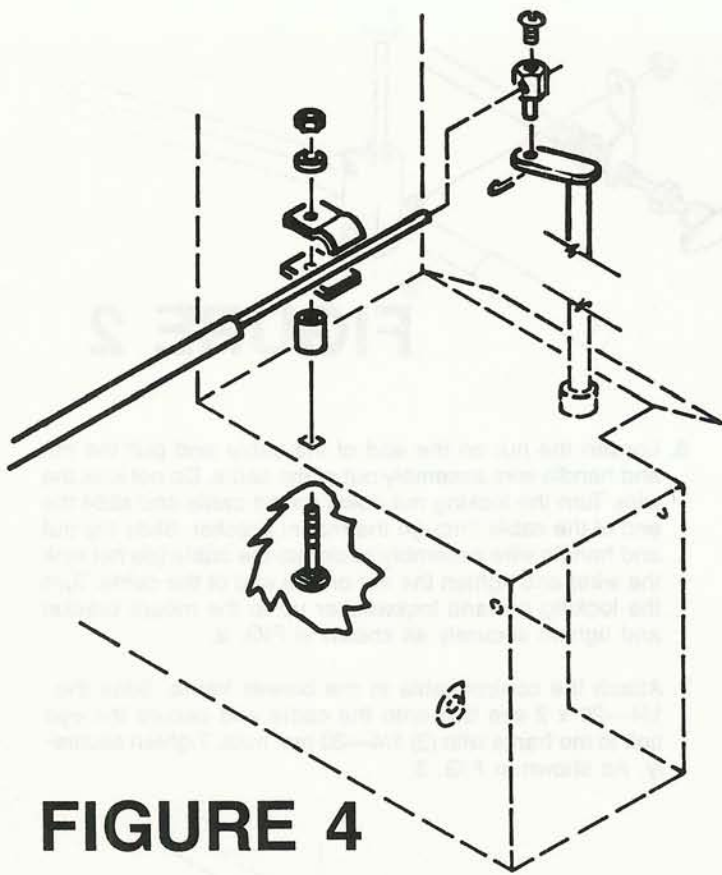

FIGURE 4
8. Attach the cable to the top of the blower discharge using the 1/4—20 x 1 1/2 carriage bolt, spacer, base plate, cable clamp, lockwasher and nut. Leave finger tight. As shown in FIG. 4.
9. Attach the cable pivot to the shaft weldment using a 1/16 x 1/2 cotter pin. As shown in FIG. 4.
11. Position the deflector completely against the front of the discharge opening for side discharge and secure the wire to the cable pivot and tighten the screw. As shown in FIG. 4. Cut off excess wire as required.
12. Position the deflector midway between the side discharge position and the front discharge position. Align the cable with the cable pivot and tighten the 1/4—20 x 1 1/2 carriage bolt for the cable clamp and base plate. As shown in FIG. 4.